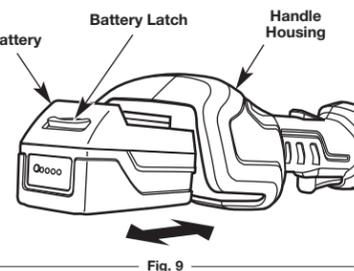

Fig. 9
1. Align the tongue of the battery with the handle cavity (Fig. 9).
1. Press the latch button on the battery down and hold (Fig. 9).
1. Fit the battery into the handle cavity (Fig. 9). Refer to *Installing the Battery*.